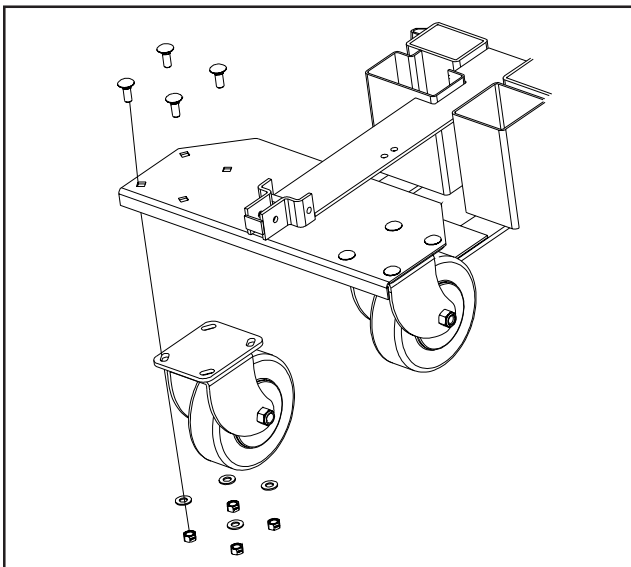

FIGURE 2
2. Attach front caster wheels, Part # 0044, to Kaddy frame using: 3/8-16NC x 3/4" long carriage bolts, washers and lock nuts. (See Figure 2.)